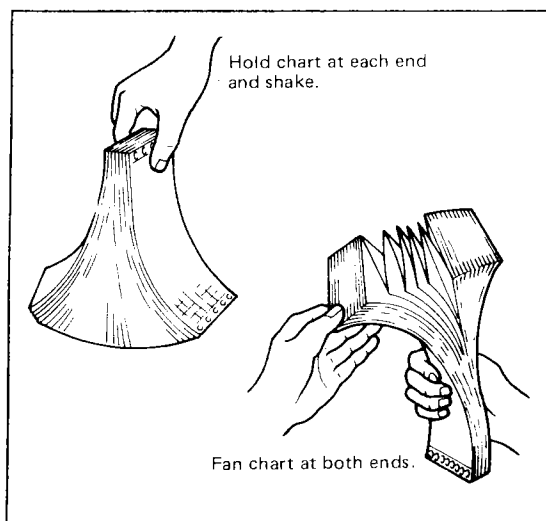

Figure 5-4. Fanning Chart.
- (1) "Fan" the chart paper sufficiently prior to loading it in the chart stock (see Figure 5-4) and confirm that there is no punch-confetti in the square holes at the chart edge.